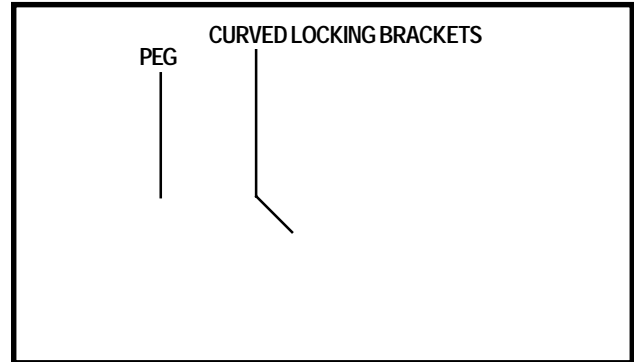

Figure 21. Frame Sections
1. Position the front and rear sections of your scooter as shown in figure 21.